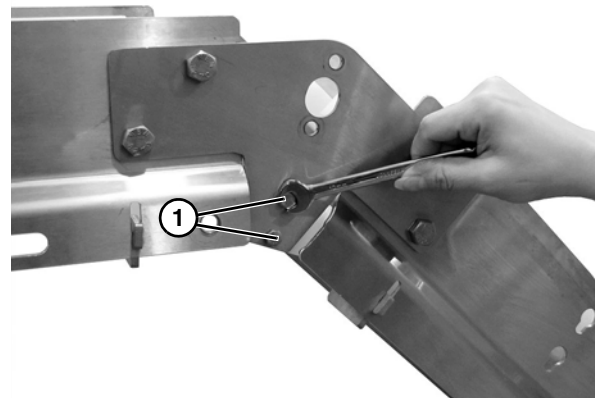
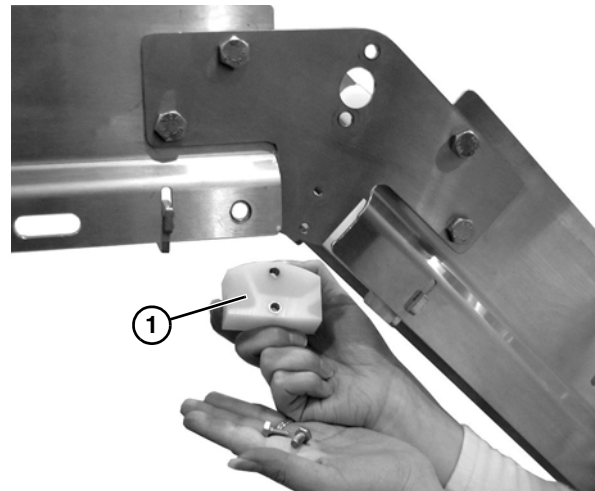

Figure 74
Figure 75
- Remove two cap screws (**Figure 74, item 1**) and inner belt return guide (**Figure 75, item 1**). Repeat on opposite side of the conveyor.